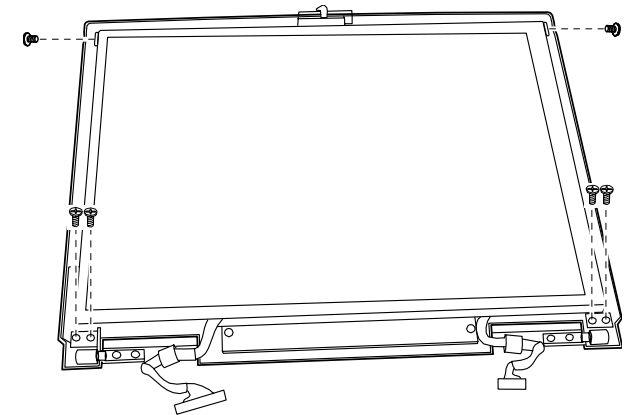

Figure 5-26. Removing the 13.3 Inch LCD
1. Reconnect the cables to the LCD. Fit the LCD back into place and secure with six screws. (Refer to Figure 5-26 earlier.)